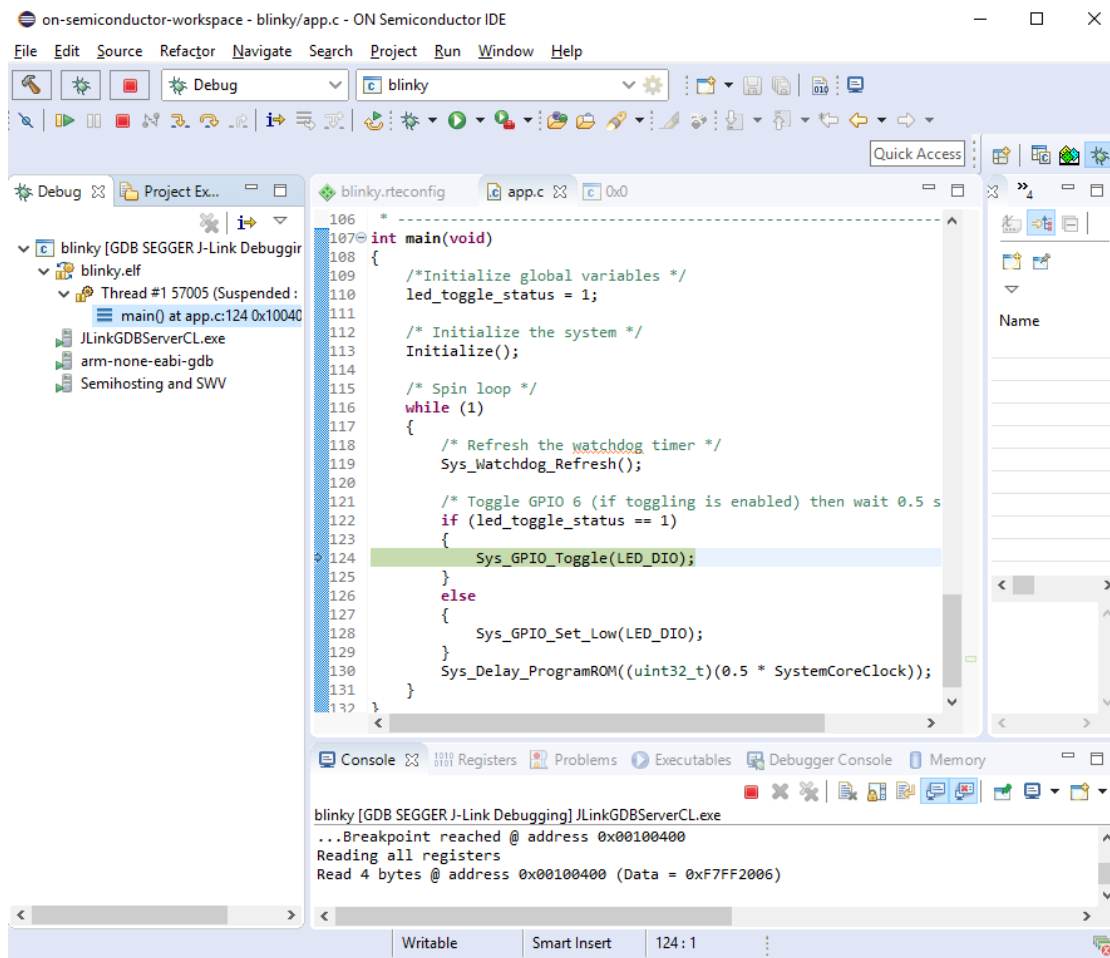

Figure 11. Debug Perspective
- The Debug perspective opens and the application runs to *main*, as shown in Figure 11. You can press F6 multiple times to step through the code and observe that the LED changes its state when the application executes the function `Sys_GPIO_Toggle(LED_DIO)`.